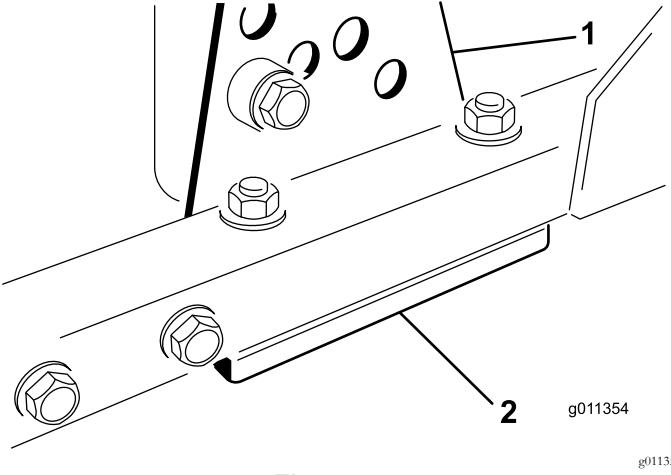

Figure 75
1. Remove the height-of-cut bracket, (front, left, or right) from the deck frame (Figure 75).
2. Adjust 1.5 mm (0.060 inch) shims and/or 0.7 mm (0.030 inch) shims between the deck frame and bracket to achieve the desired height setting (Figure 75).